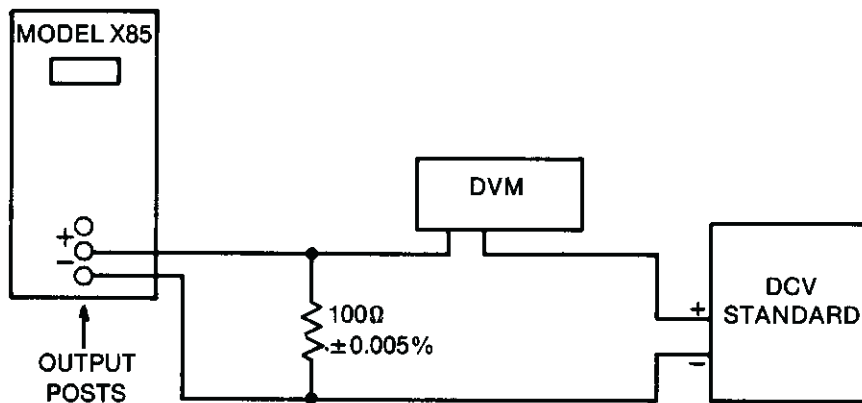

FIGURE 5.5
5.3.6.1 There are no calibration adjustments in the current output circuit; the accuracy depends on the accuracy of the input voltage measurement of the IV range as calibrated in section 5.3.2.5, and a precision wire wound resistor on the range switch board, R12. To verify the accuracy of the current output, connect the Model X85 in the test configuration of figure 5.5.